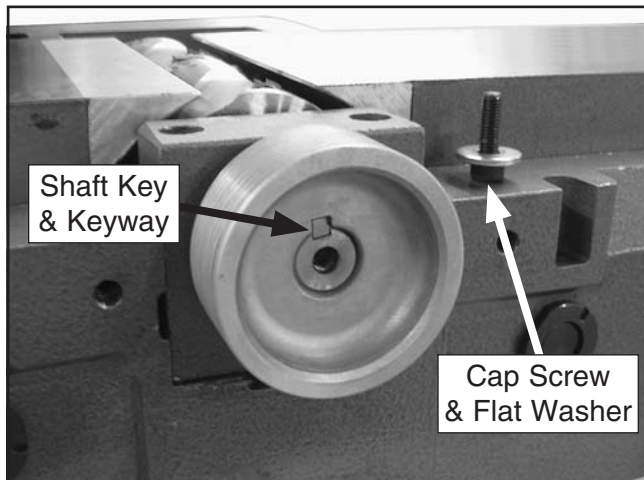

Figure 2. Cutterhead pulley mounted on the cutterhead shaft.
2. Slide the cutterhead shaft key into the keyway of the cutterhead shaft so that the flat end of the key is facing out (see **Figure 2** on the next page for reference).
3. Align the internal keyway of the cutterhead pulley with the shaft key, then slide the pulley onto the shaft, as shown in **Figure 2**.